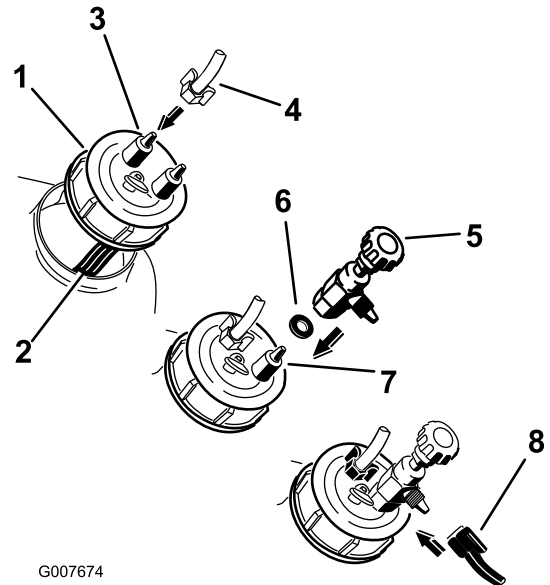

Figure 20
2. Install the 3-foot loop-back hose and cap mount regulating valve to the black cap (Figure 20).